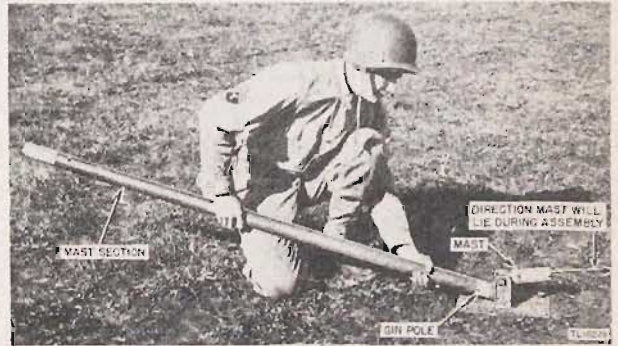

Figure 30. Inserting mast section over GIN POLE tube.
c. Turn the mast base tube marked GIN POLE so that it lies parallel with the mast base (fig. 30) and is ready to receive the mast sections.
d. Insert the widest end of one mast section firmly over the GIN POLE tube of the mast base (fig. 30). Add two more sections to complete the gin pole.